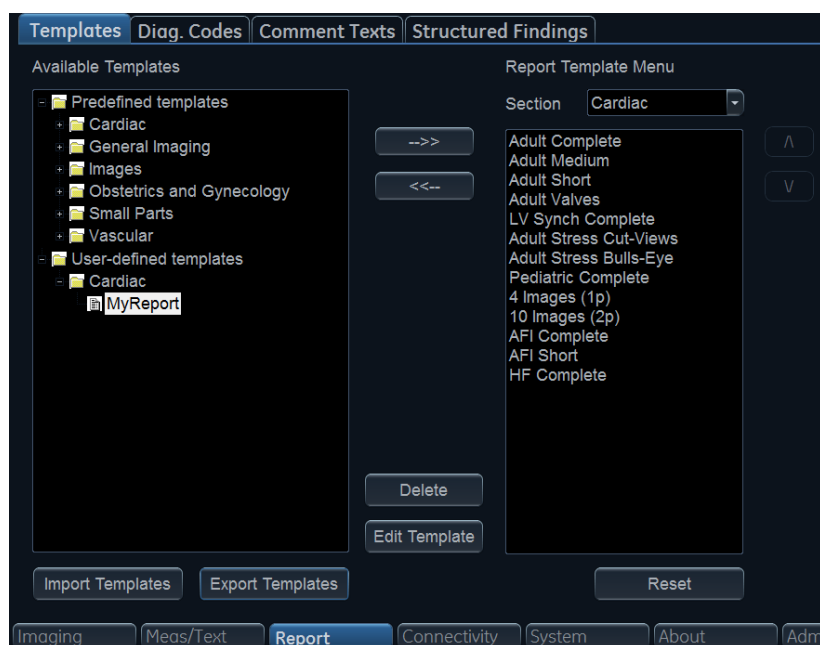

Figure 11-27. The Report templates sheet
1. Press **Utility/Config** on the Touch panel and select **Report**. The *Report templates* sheet is displayed (Figure 11-27)
1. In the *Available templates* field (left field), select the report to delete (Figure 11-27).
The *Report templates* sheet is displayed (Figure 11-27 on page 11-43).